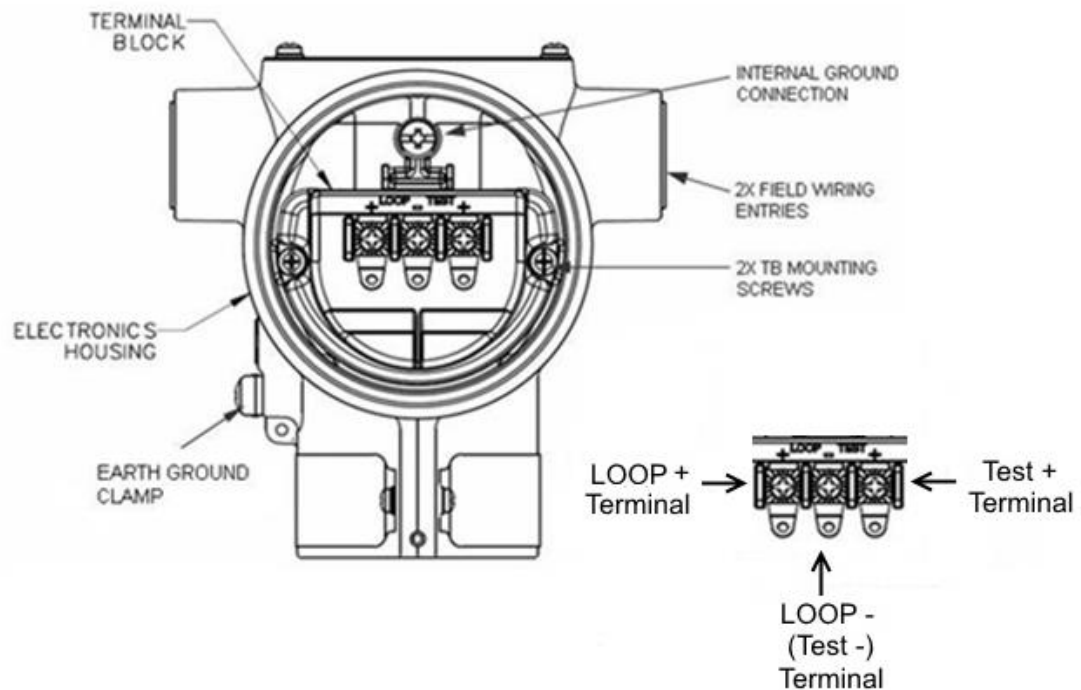

Figure 3-45: HART 3-Screw Terminal Board and Grounding Screw
<p>Loop wiring is connected to the Transmitter by simply attaching the positive (+) and negative (-) loop wires to the first two terminals on the left, marked with LOOP+ and LOOP- on the transmitter body in the Electronic Housing as shown in Figure 3-45. The third terminal to the right is a TEST terminal and is only used for loop current diagnostics / measurements.</p>
As shown in Figure 3-45, each Transmitter has an internal and external terminal to connect it to earth ground. Grounding the transmitter is recommended for safety, to minimize the possible effects of noise, and affords protection against lightning and static discharge. A lightning-protection terminal block can be configured or ordered and installed in place of a non-lightning terminal block for Transmitters that will be installed in areas that are susceptible to lightning strikes.
2. See Figure 3-45 for parts locations. Loosen the end cap lock using a 1.5mm Allen wrench.
If your Transmitter includes the optional lightning protection, connect a wire from the Earth Ground Clamp (see Figure 3-45) to Earth Ground as short as possible to make the protection effective. Use a size 8AWG or (8.37mm²) bare or green covered wire for this connection.